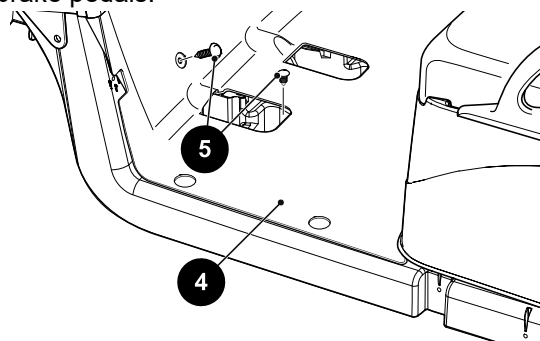

Figure 5 Floormat Fastener Removal
1. Remove six ratchet rivets (5) securing the floormat to the floorboard (4). (Figure 5).